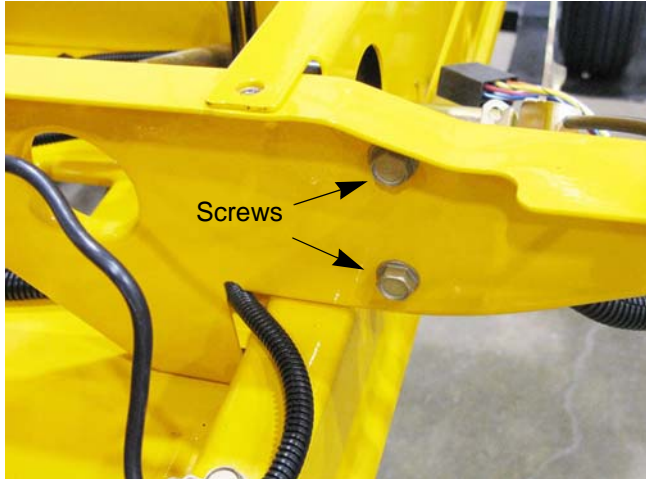

Figure 3.17
10. Remove the four screws (two on each side), securing the seat box to the cross member using a 1/2" wrench. See Figure 3.17.